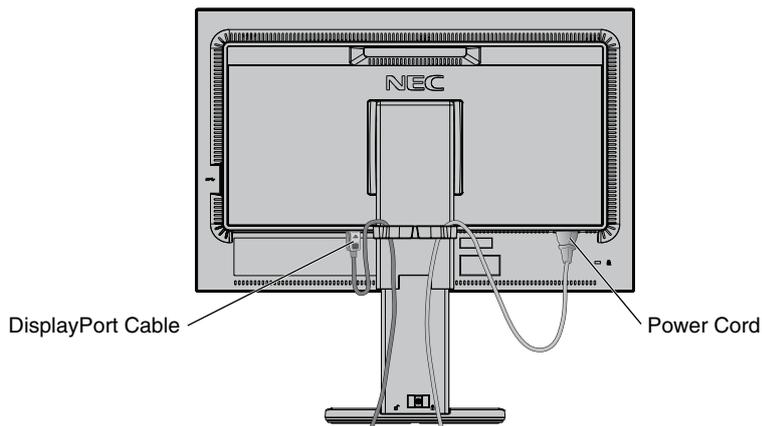
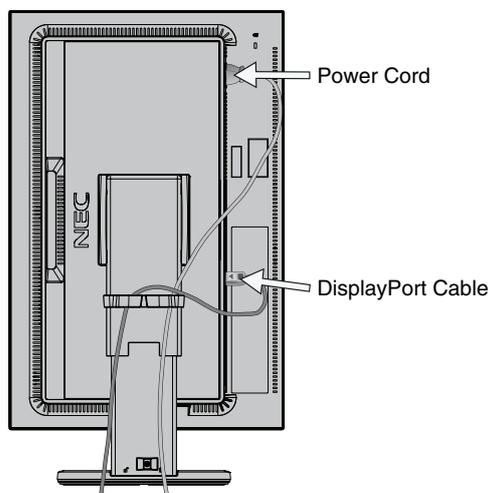

Figure C.2
Figure C.3
- 5. To keep the cables neatly and evenly organized, place them into the cable holder which is installed onto the stand (Figure C.2 and Figure C.3).